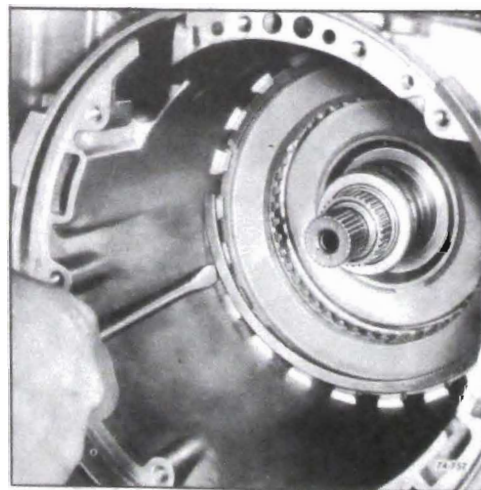

Figure 76-757
14. Install the backing plate to case snap ring. Gap in snap ring should be opposite band anchor pin. See Figure 76-757.